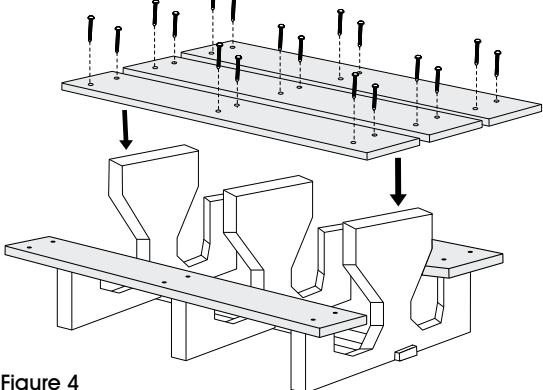

Figure 4
4. Determine the spacing for the slats on the tabletop. Pre-drill holes on the slats using the power drill and 3/8" socket bit. Loosely attach slats to the plastic base using 4" lag screws, power drill and 3/4" socket bit (will tighten later in step 7). (See Figure 4)